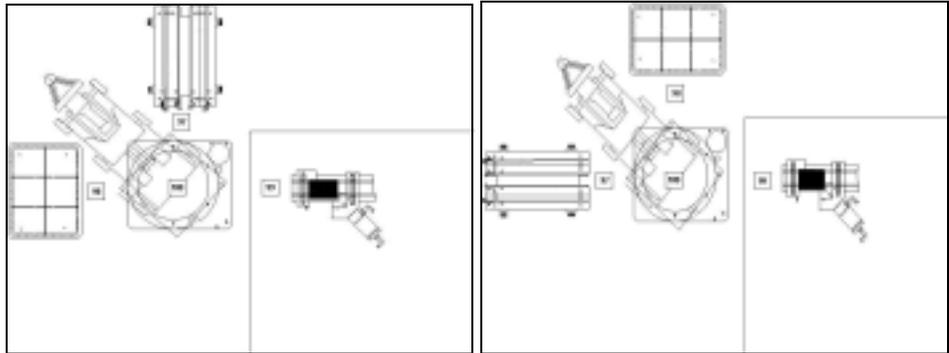

Figure 7: Suggested cell setups
- 3 Once the feeder is positioned properly (as shown in Figures 7 and 8)), duct tape can be used to hold it in place, or you can bolt it to the table.